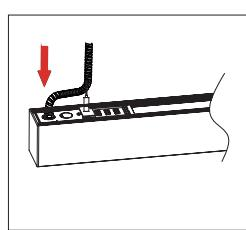

Fig. 8
3. Use suggested hole distances (Fig. 8) and mark them on the surface (Fig. 3).